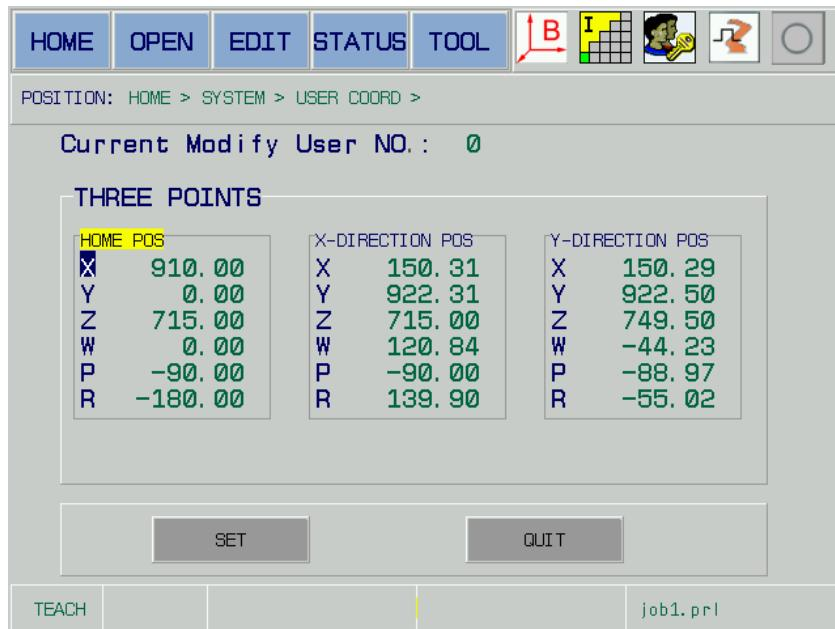

Fig. 8-7
**Step three:** If the wrong point-capture occurs during its operation procedure, try it again; refer to the Fig. 8-7: